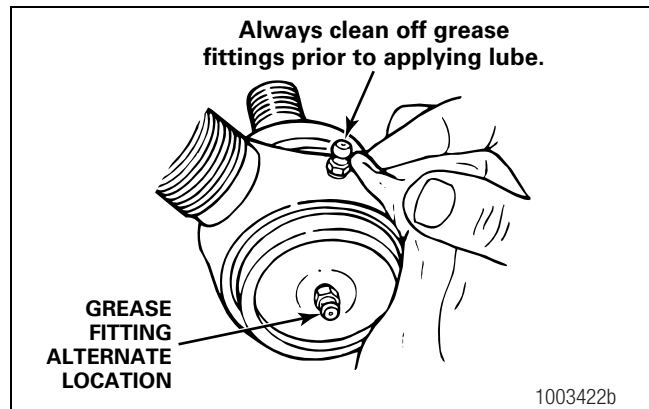

Figure 6.26
3. Wipe the grease fitting, seal and boot clean with shop towels. Figure 6.26.